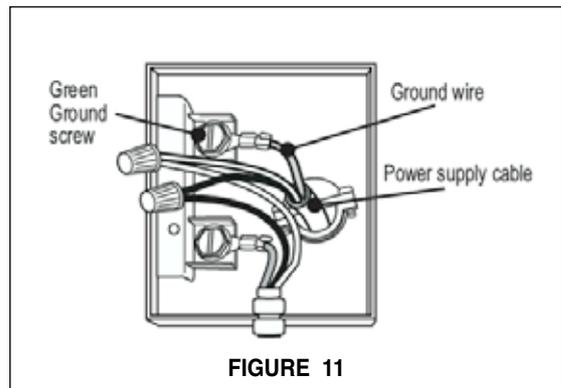

FIGURE 11
- Remove the cover from the Field Wiring Compartment with a phillips screwdriver. Feed the Power Supply Cable through the electrical knockout. **(See FIGURE 11)** Connect the Power Supply Cable to the rangehood cable. Attach the White lead of the power supply to the White lead of the rangehood with a twist-on type wire connector. Attach the Black lead of the power supply to the Black lead of the rangehood with a twist-on type wire connector. Attach the Power Supply Cable grounding lead to the green screw provided. Using the 4 holes provided screw the Field Wiring Compartment to the wall as dictated by your Power Supply Cable location (screws not provided). Replace the cover.